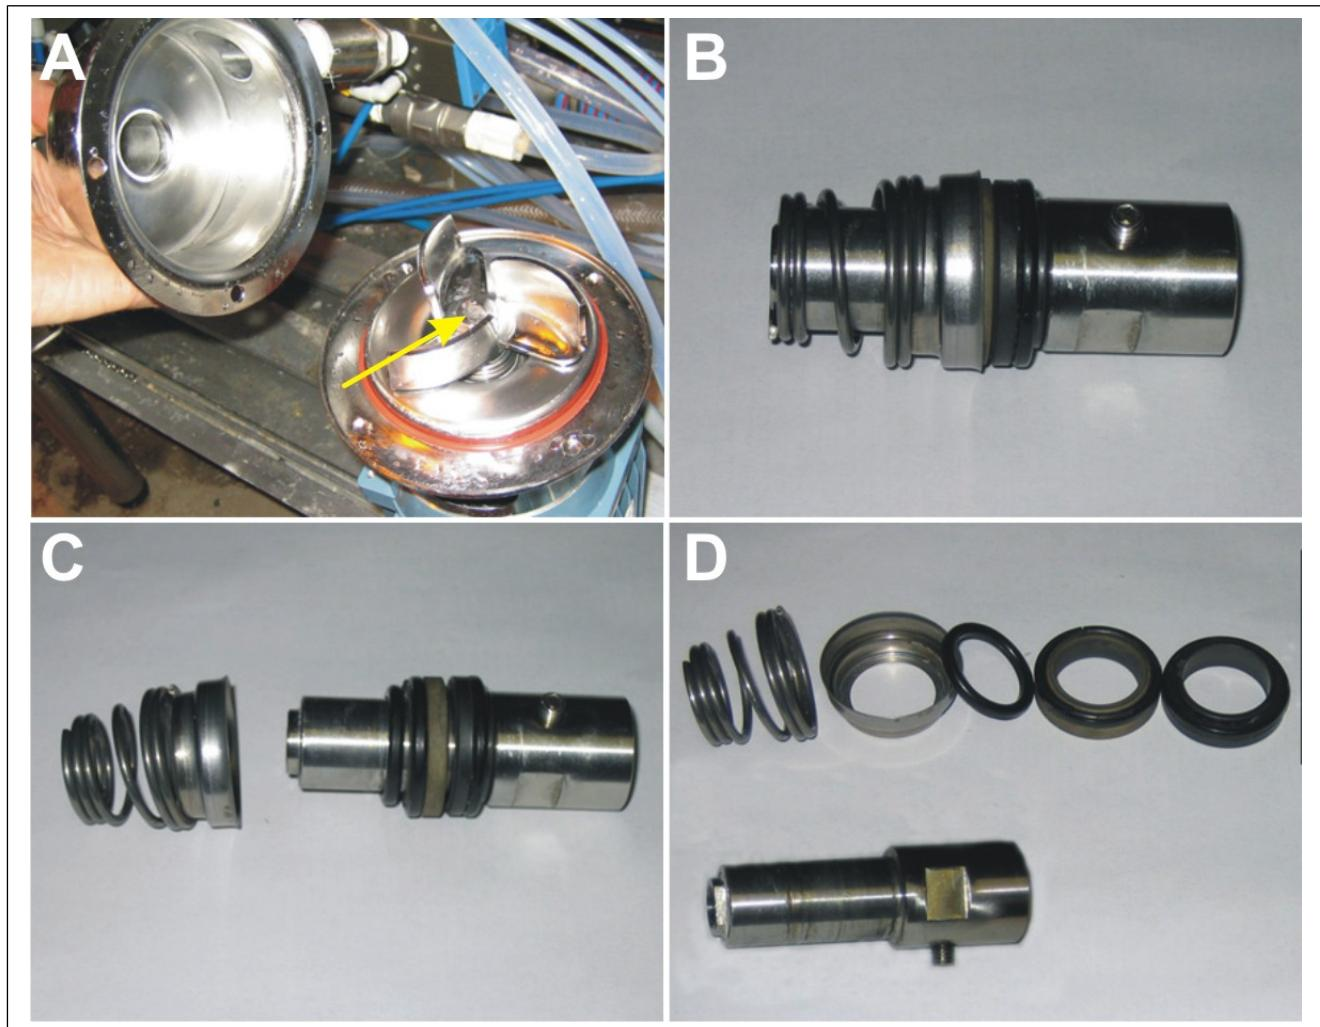

Fig. 33. Replacing the pump seals.
3. Open the nut on the center of the impeller (Fig. 33, step A).